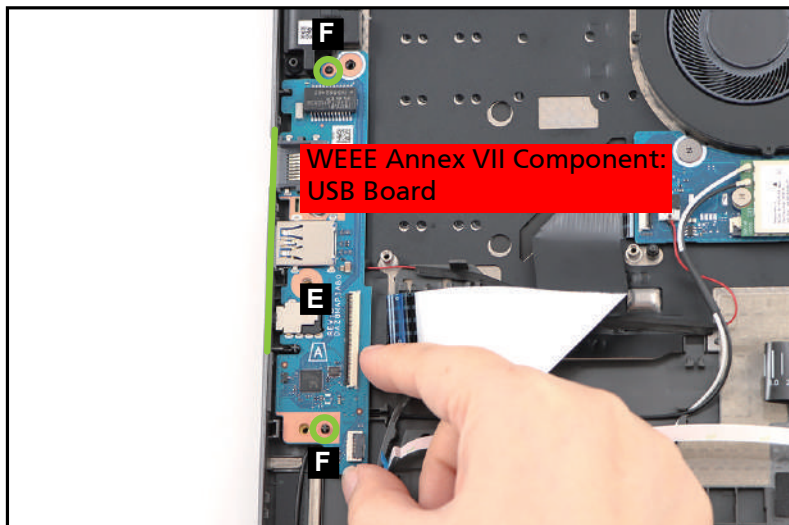

Figure 3-44. USB Board Removal
4. Release the USB board (E) from the I/O port slots and guide pins (F) on the top assembly (Figure 3-44). Then remove the USB board.